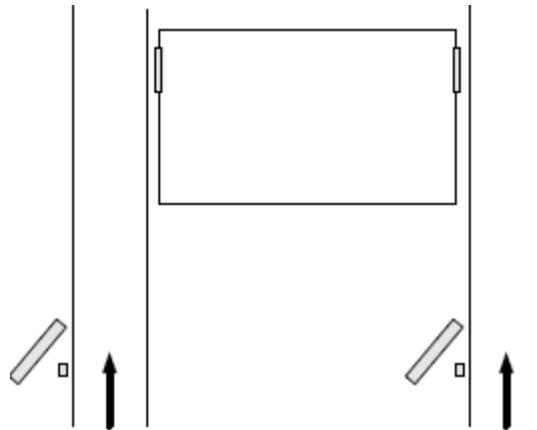

Figure 4.
- A *Dual Drive-Thru* (see Figure 4) is comprised of two completely separate drive-thru systems, each with its own lane, usually on opposite sides of the building, its own order point, and one or two drive-thru windows for payment and pick up. The simplest dual drive-thru is two single drive-thrus, but it is possible to have dual tandem, dual side-by-side, or even a combination of different drive-thru types.